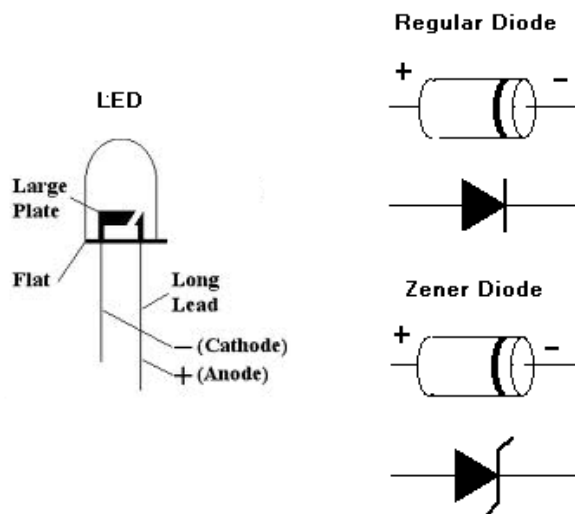

Figure 4.1
- Anode and cathode of diodes are shown in figure 4.1